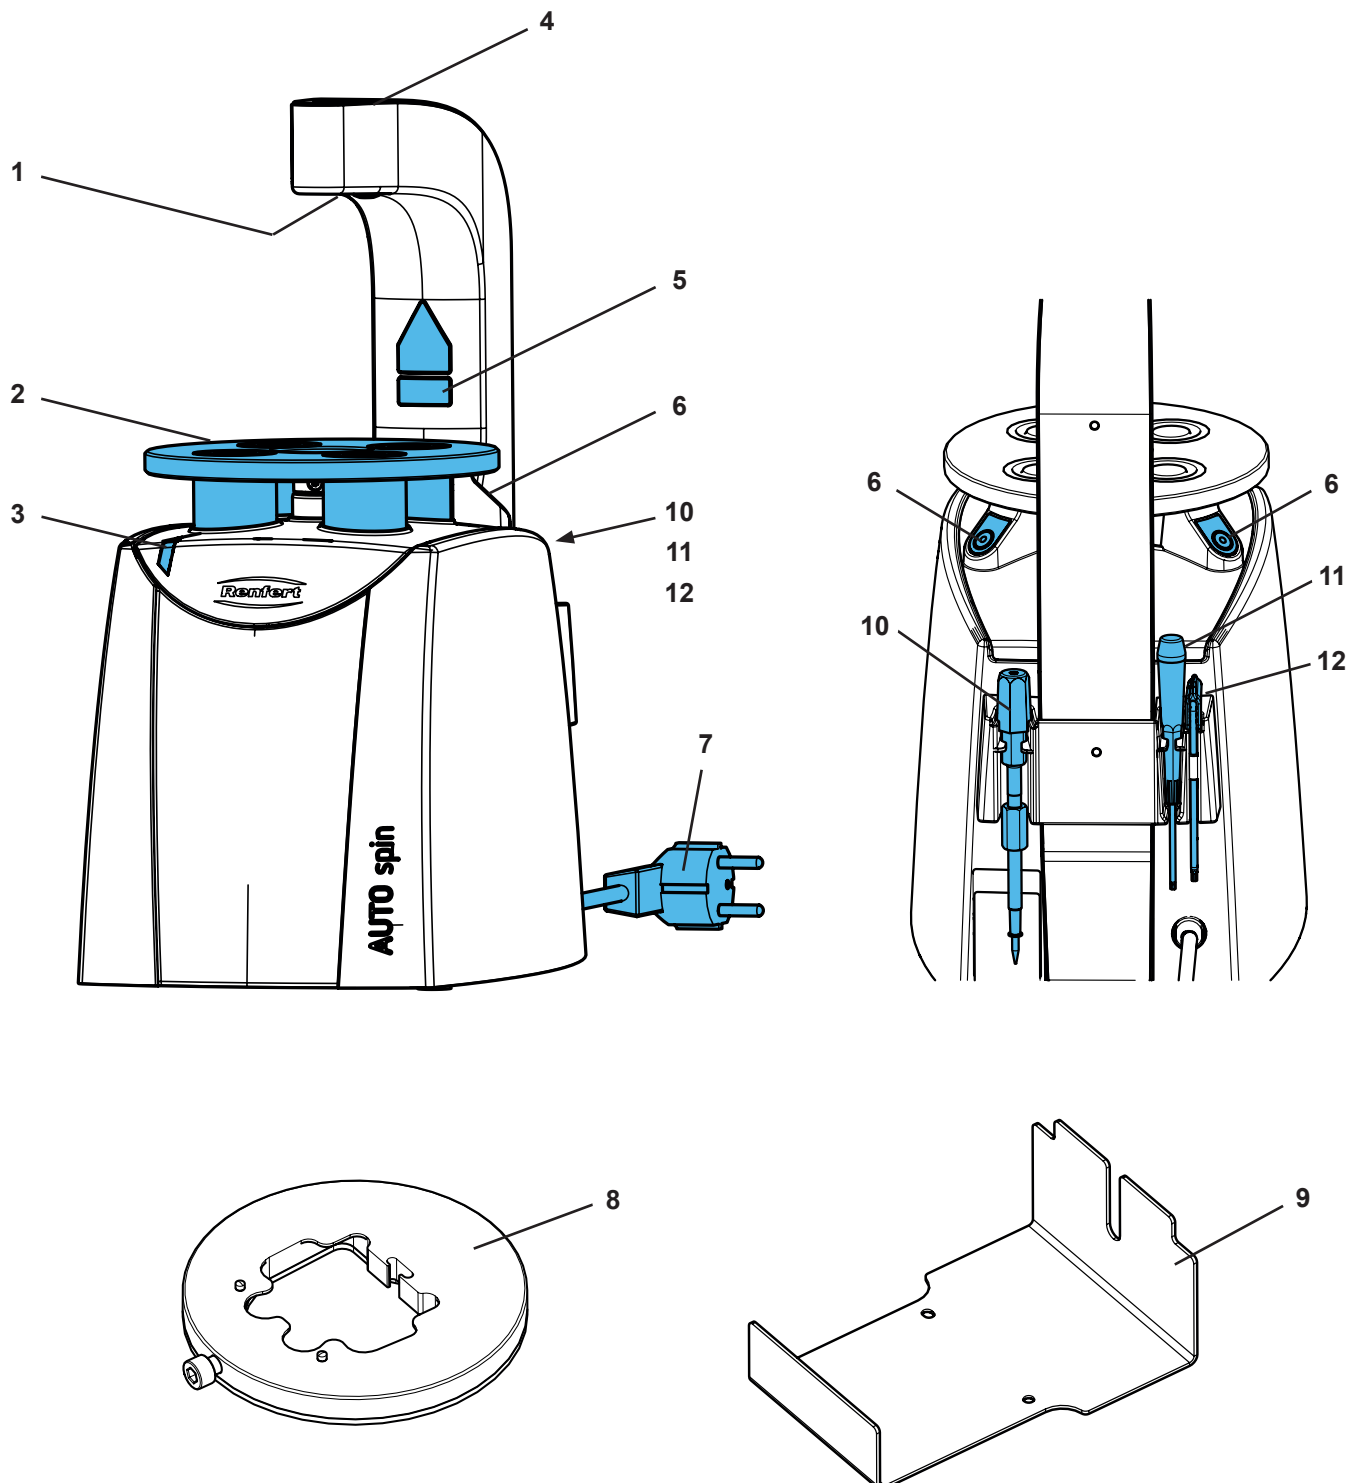

Fig. 1
- ⇒ Remove the laser warning in your language from the sticker set and cover over the existing warning label (5, Fig. 1).
- ♦ The operating indicator (3, Fig. 1) flashes.
- ⇒ Press and hold both operating keys (6, Fig. 1).
- ◆ The operating indicator (3, Fig. 1) lights up.
- ◆ The target laser (1, Fig. 1) lights up.
⇒ Press both operating keys (6, Fig. 1) simultaneously to initiate the drilling process.